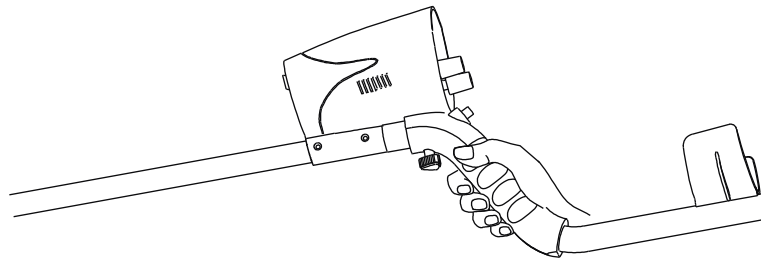

Figure.2
2. Align the threaded bolts at the handle bottom, with the knobs under the control box, lock it with the bolts (Figure.2).